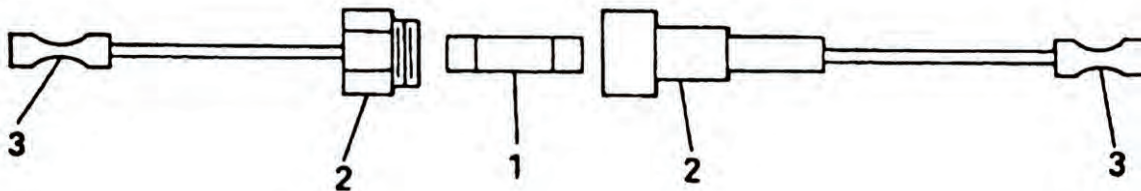

Figure 1. In-Line Fuse Installation.
WP 0043, Figure 1, Items: 23, 24 & 27
4. Tag and disconnect GROUND FAULT CIRCUIT INTERRUPTER (WP 0043, Figure 1, Item 23) electrical leads from TB4 and K5 and CONVENIENCE RECEPTACLE (20).
5. Remove screws (21) and nuts (22).
6. Remove GROUND FAULT CIRCUIT INTERRUPTER (23) from malfunction indicator panel (27).
1. Install GROUND FAULT CIRCUIT INTERRUPTER (WP 0043, Figure 1, Item 23) in malfunction indicator panel (27) with screws (21) and nuts (22).
2. Connect electrical leads to TB4 and K5 and CONVENIENCE RECEPTACLE (20). Remove tags.
3. Remove malfunction indicator panel screws (WP 0043, Figure 1, Item 24), washers (25), and nuts (26). Lay malfunction indicator panel (27) to the side.
4. Cut black wire on load side of GROUND FAULT CIRCUIT INTERRUPTER (23).
5. Strip wires on in-line fuse holder (Figure 1, Item 2) and install butt splices (3) at each end. Connect ends of black wire to in-line fuse holder butt splices (3).
6. Install fuse (1) in fuse holder (2).
8. Install malfunction indicator panel (WP 0043, Figure 1, Item 27), screws (24), washers (25), and nuts (26).
WP 0043, Figure 1, Item 27
5. Disconnect multi-pin connector at rear of malfunction indicator panel (WP 0043, Figure 1, Item 27).
6. Remove bolts (24), washers (25), and nuts (26).
7. Remove malfunction indicator panel (27) from control panel.
1. Install malfunction indicator panel (WP 0043, Figure 1, Item 27) in control panel with bolts (24), washers (25), and nuts (26).
WP 0043, Figure 1, Items: 28 & 32
4. Remove cap (WP 0043, Figure 1, Item 28) and fuse (29) from fuse holder (32).
5. Tag and unsolder electrical leads from fuse holder (32).
6. Remove nut (30), lockwasher (31), and fuse holder (32). Discard lockwasher (31).